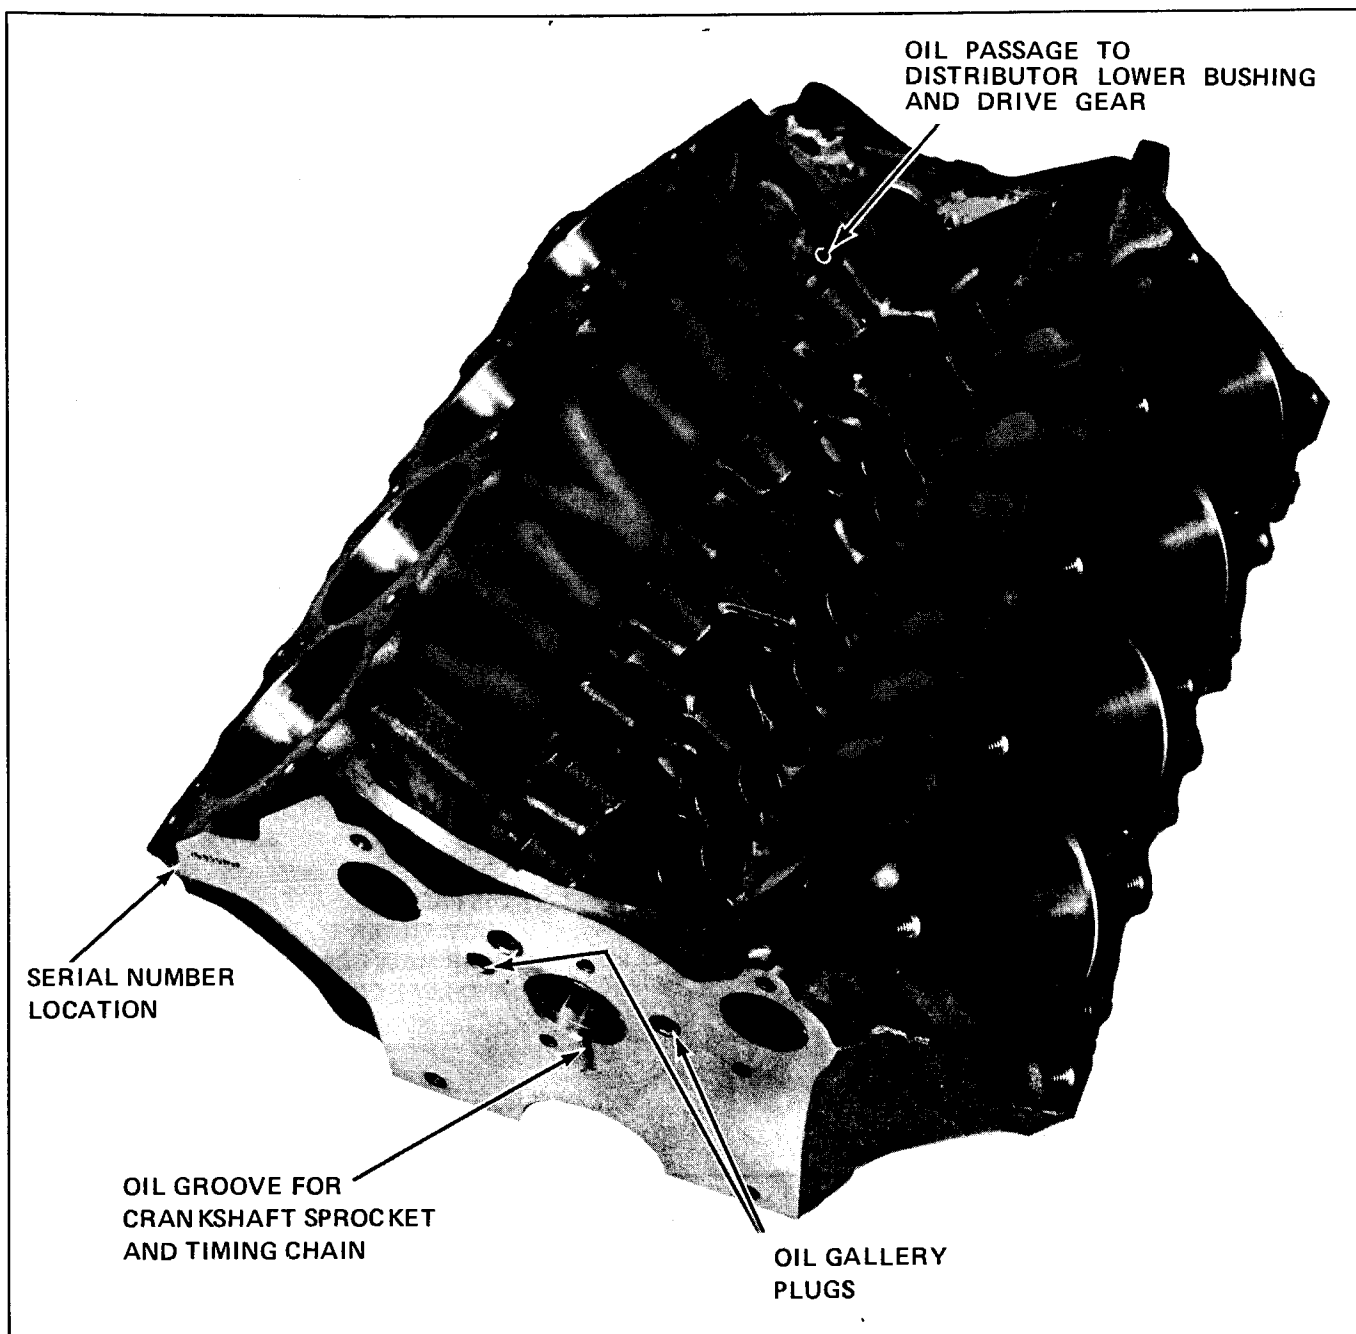

Fig. 6-167 Cylinder Block - View from Left Front
NOTE: Oil circulation diagram is provided in the engine lubrication section. Figs. 6-167, 6-168, 6-169 also show the various locations of water jacket core hole plugs.
5. With cylinder block right side up, check oil passages to left bank lifter bosses. Use rubber hose to blow smoke in oil filter outlet while observing for smoke passing out oil passages from left main oil gallery to lifter bosses (Fig. 6-167).